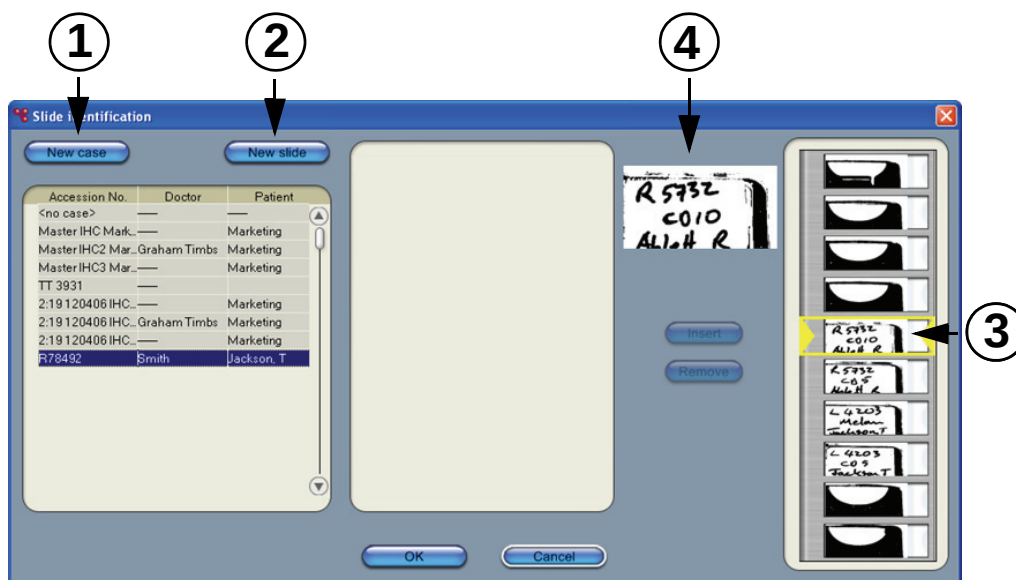

Figure 106: Slide identification dialog with slide status display
The “Slide identification” dialog appears with **New case** and **New slide** buttons available (items 1 & 2 in Figure 106).